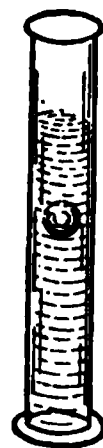

FIG. 81. —
92. Shape Assumed by a Free Liquid. Since the molecules of liquids slide over one another readily, the force of gravity causes the surface of liquids to become level. If the force of gravity can be nullified, a small portion of *free* liquid will then assume a spherical form. The density of lubricating oils is less than that of water, but somewhat more than that of alcohol. Suppose we lower a drop of oil into a vessel containing a layer of alcohol floating on a layer of water. The oil floats in the liquid mixture and its shape is spherical. See Fig. 81.